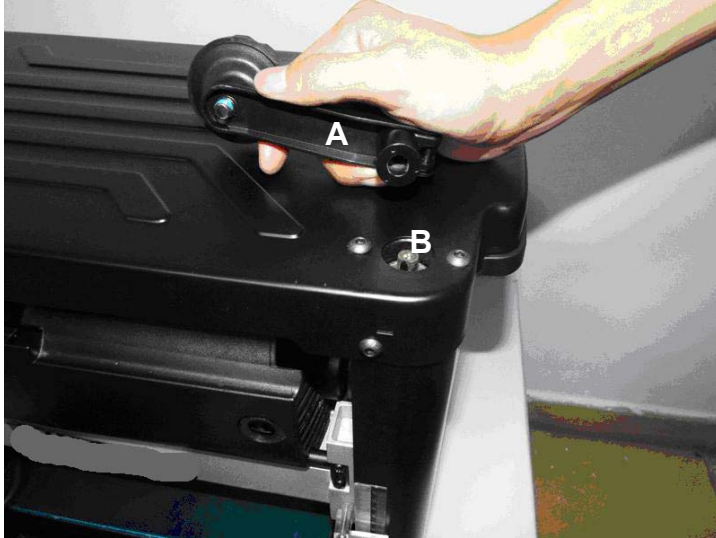

FIG 1
Attach the raise/lower adjustment handle (A) to the shaft (B) and fasten in place with 1 Hex Socket Head screw. Tighten screw using supplied hex wrench. SEE FIG 1.